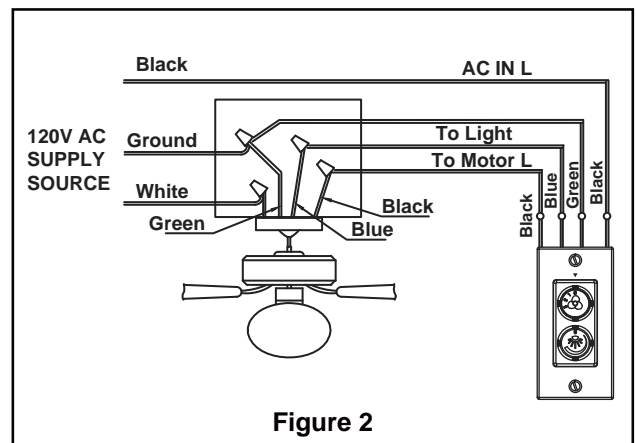

Figure 2
- 2. Securely attach and tighten the canopy screw cover over the shoulder screws in the hanger bracket utilizing the keyslot twist-lock feature. (Figure 2)